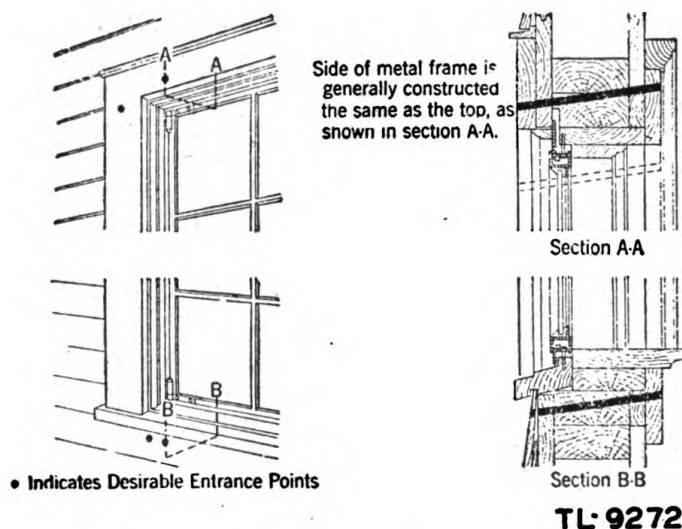

Figure 85. Entrance holes through metal window frames set in wood.
(2) If the metal window frame is set in wood, make the entrance hole as shown in figure 85.